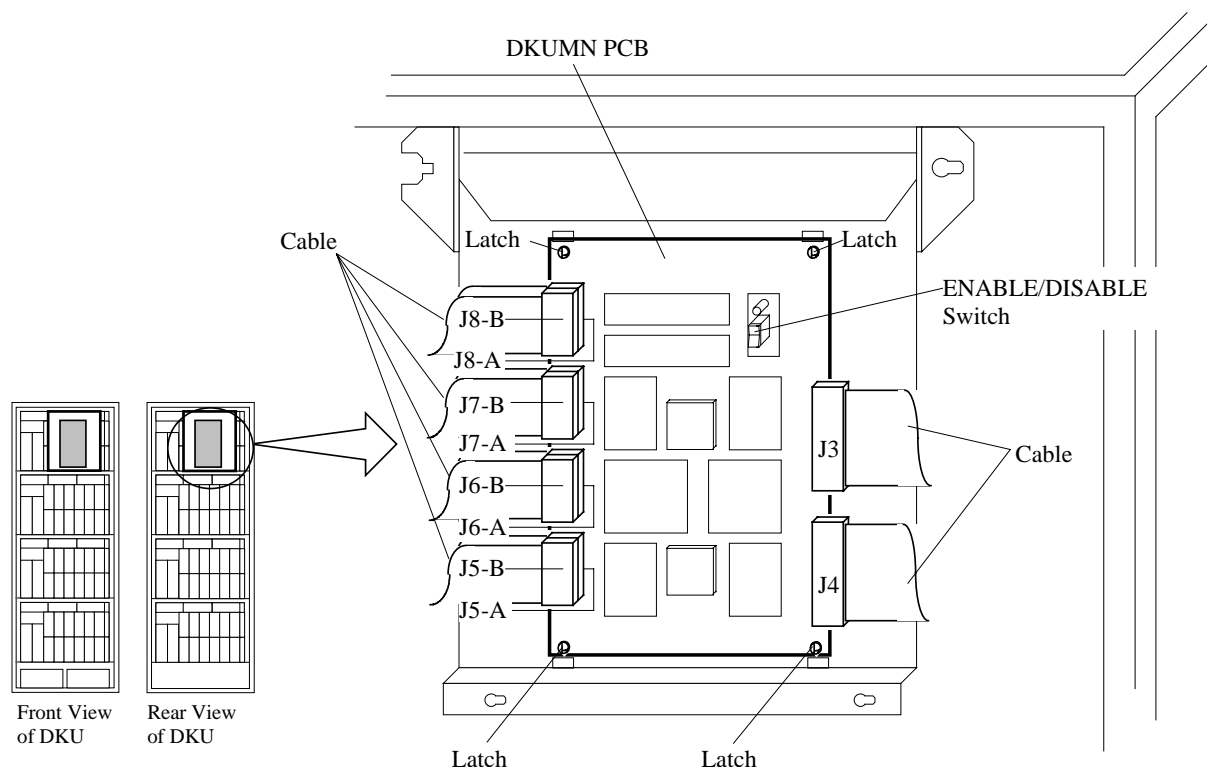

Fig. T14-1 Replacement of DKUMN PCB
1. The following figure (Fig. T14-1) and table (Table T14-1) show the correct way to replace the DKUMN PCB.